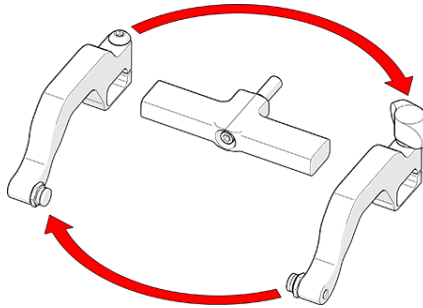

Figure 3-30 Reverse position around yoke
4. Position the removed arms to the opposite sides of the yoke (see Figure 3-30 on page 61).